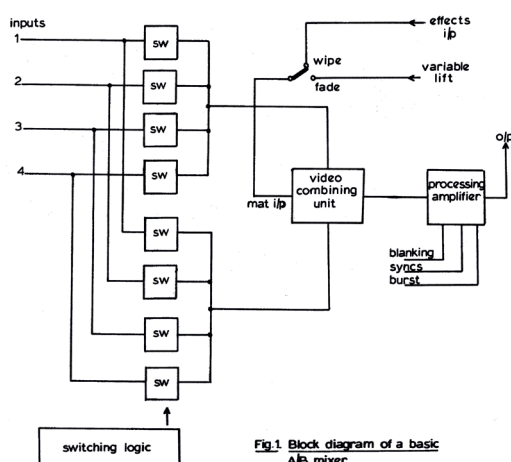

Fig.1 Block diagram of a basic A/B mixer
I have a programme by VK5UM which produces designs for four pole interdigital bandpass filters. My friend G4BVK has used this programme to make filters for 437 & 1249MHz with great success. The question was; would the algorithm hold true for 2.4GHz? After playing around with the variables (cavity depth, rod diameter, bandwidth) I arrived at the design shown in Fig.1.
► Fig. 1 The general arrangement of the filter showing principal dimensions. See text for sizes not shown.